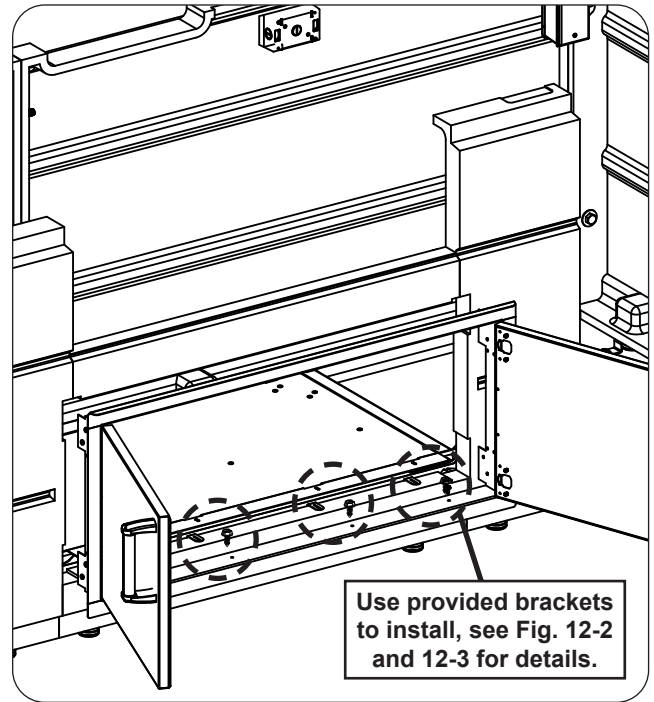
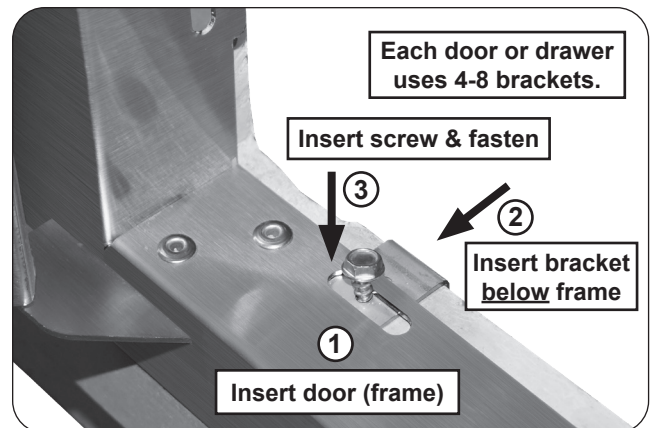
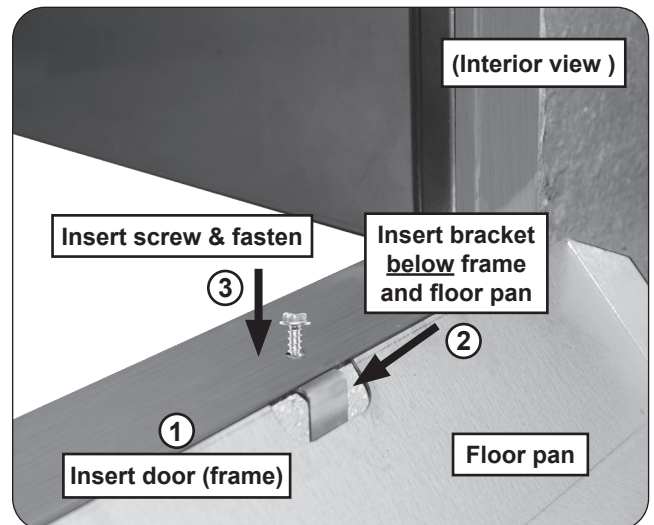

Fig. 12-1 Door / drawer install
Fig. 12-2 Door / drawer install detail
Fig. 12-3 Door / floor pan install detail
1. Insert your unit completely into the appropriate opening. Ensure it is flush against the exterior wall (see Fig. 12-1 and Fig. 12-2, step 1).
2. The unit will have 2-4 oblong cutouts (or round holes) on both the top and bottom of its frame. Reach from within the island and insert a bracket where a cutout exists, **below the frame**. See Fig. 12-2, step 2.
Note: When installing the under grill access door ensure the bracket is inserted **below the frame AND floor pan** (see Fig 12-3, step 2).
3. While squeezing the rear of the bracket and the front of the door frame **firmly** against the concrete wall, insert a hex screw and tighten with the power drill and 5/16" hex driver (see Fig. 12-2 or Fig 12-3, step 3). **DO NOT OVERTIGHTEN.**